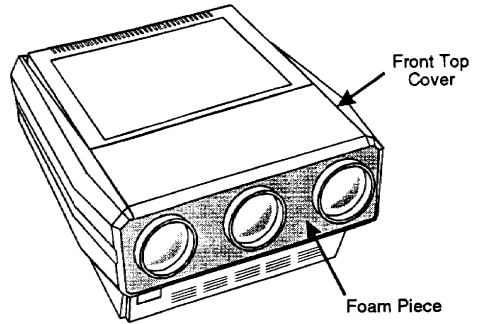
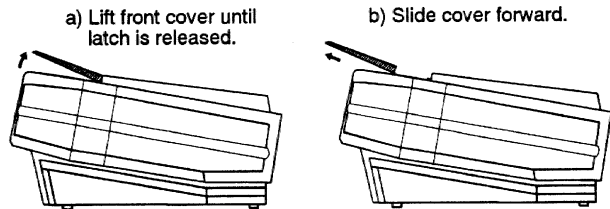

Figure 2-19. Front Top Cover
Figure 2-20. Front Top Cover Removal
**Step 2** ▶ Locate the front top cover of the projector. See Figure 2-19. Next, position your hands above the red and blue lenses then grasp the cover. Gently lift it until it is released from its securing latch. Slide the cover away from the projector as shown in Figure 2-20 below.